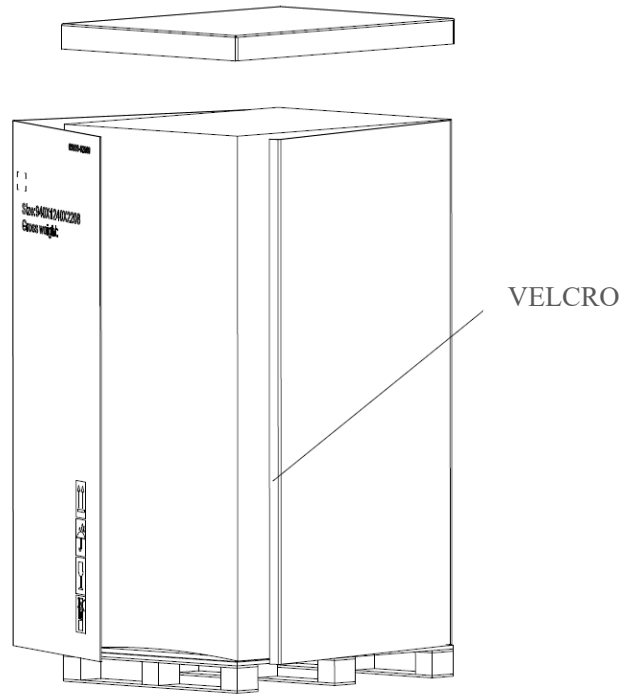

Figure 3-4 Disassemble the box
Step 3: Remove the top cover, tear off the Velcro, and remove the carton fence as shown in Figure 3-4: